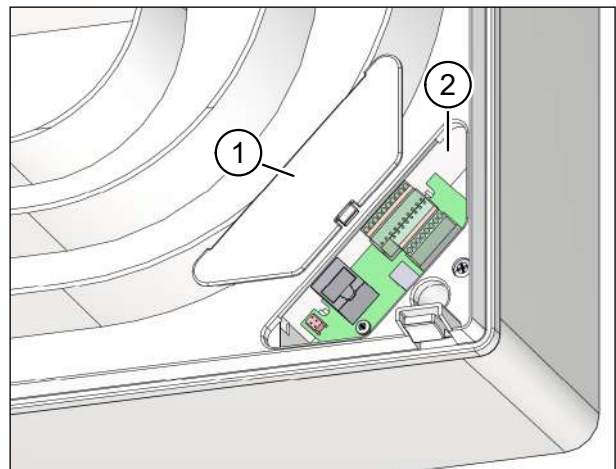

Fig. 45: Inserting the network connection cover
- ▶ Place the network connection cover (item 1 in Fig. 45) over the opening (item 2 in Fig. 45) and lock it in place.